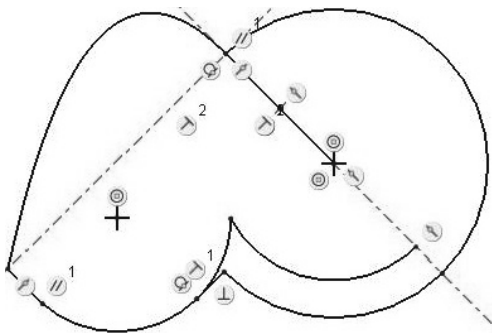

Figure 3-37 Tangent and Divide
- Step38:** Add a concentric circle just inside the big arc. Use  to create an arc tangent to the concentric circle and the two straight lines. Draw a line between the inner circle and the big arc where the construction line crosses both. The dashed lines represent the object's shape before the tangent arc was added. See Figure 3-37.
- Step40:** Remove the unwanted lines as shown in Figure 3-37. Use the *undo* tool, , if you accidentally erase the wrong line segment.
- Step41:** Figure 3-37 is a bit weird looking, but it does demonstrate the use of some of sketcher's tools. Draw an imaginary box around the figures, then press the <Delete> key to clear the screen.